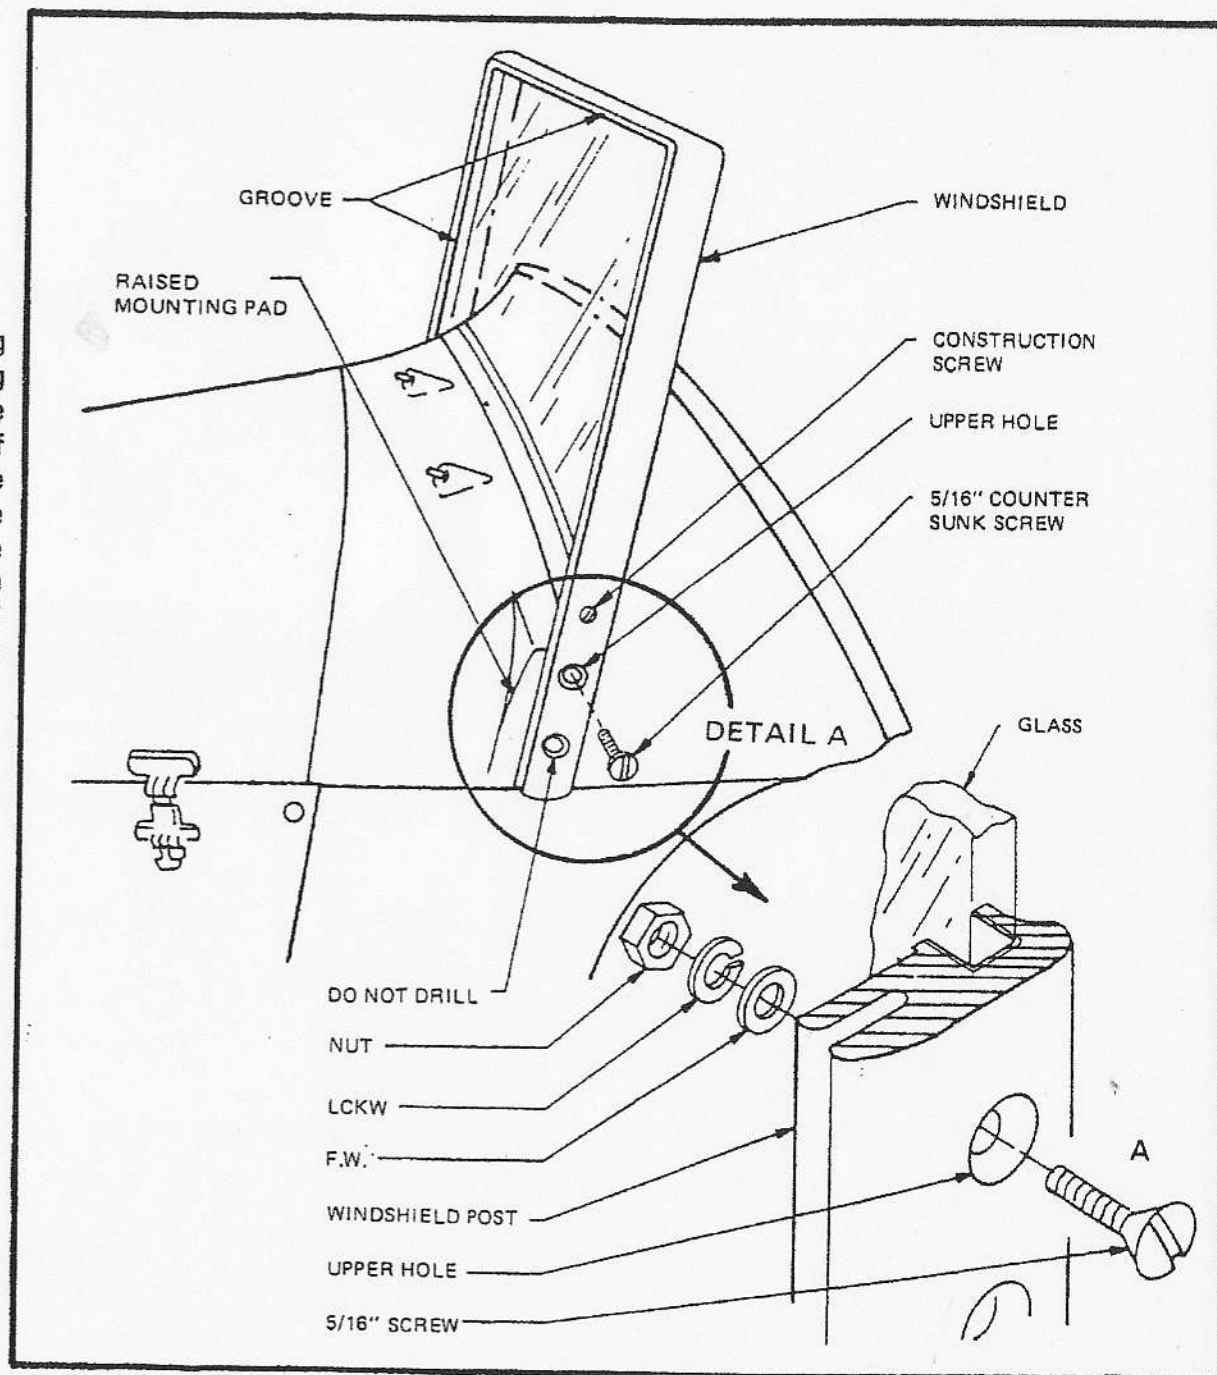

Figure 69
WINDSHIELD (Refer to Figure 69)
- ☐ Slide windshield over body, centering each side post on the raised mounting pads on the body sides. (Loosen the construction screw on each side of the frame if necessary.) Angle the windshield back so that the angle of the frame matches that of the forward edge of the mounting pad. (Figure 69) The groove in the edge of the windshield must face forward to allow installation of the convertible top.